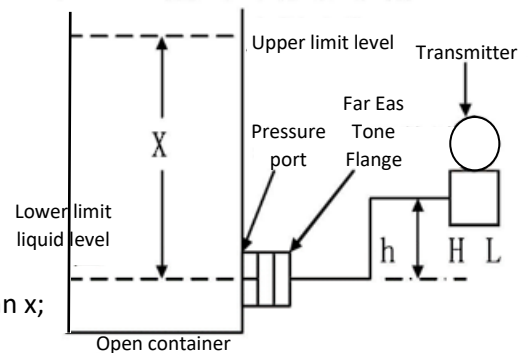

Figure 5-9 The transmitter is higher than the pressure port
2. When the transmitter is higher than the pressure port and the lower limit liquid level is level with the pressure port (see Figure 5-9), the measurement range value is determined as follows: